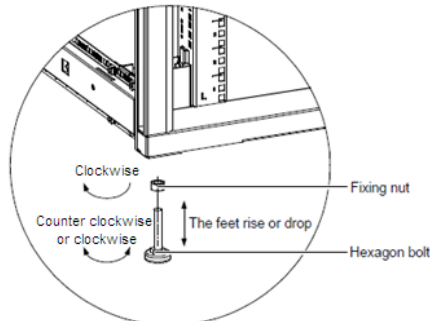

Figure 2-15 Levelling foot
- 2) Use a movable wrench to loosen the four fastening nuts on the four levelling screw rods in a clockwise direction (Refer Figure 2-15).